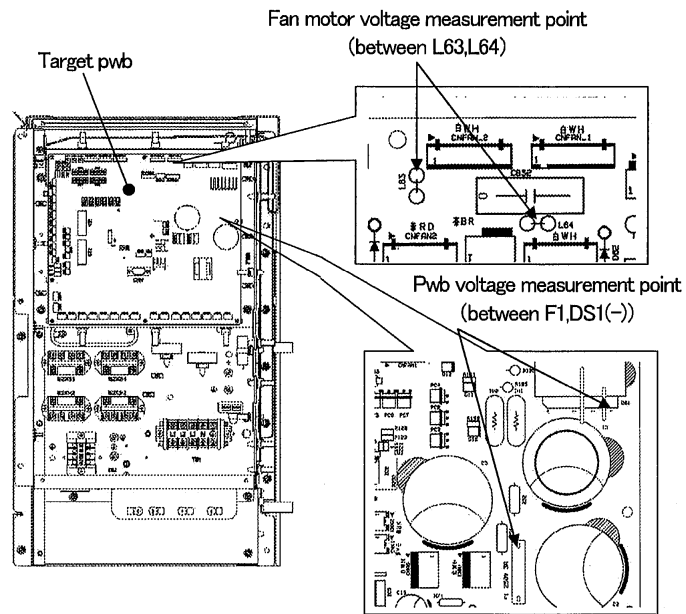

Fig.1 Voltage Measurement Points
**(Be sure to measure voltage (DC) of two places** (1. Power supply for pwb 2. Power supply for fan motor) and **check that the voltage is discharged sufficiently.** (Refer to Fig.1 next page))
- (3) Remove a total 8 pieces of screw at the sections A, B and C in Figure 1.